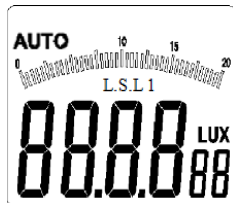

Fig. 3-1-2C
4. Give another long press (1 second) on the key and the word "PEAK" at the upper right of the LCD screen will disappear and the word "AUTO" appears in the middle of the screen. At this moment, the meter returns to the auto measurement mode (as shown in Fig.3-1-2C).